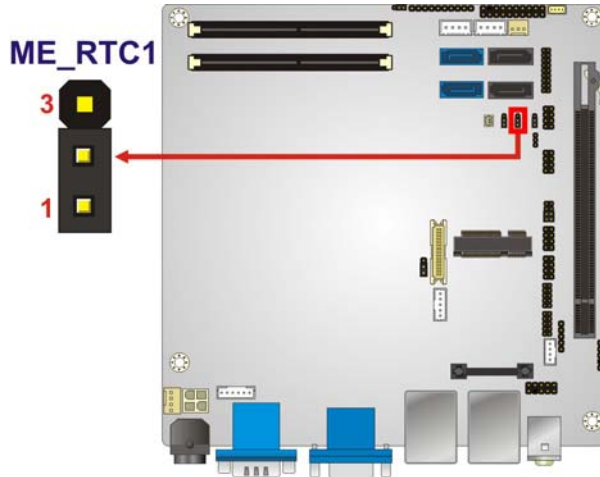

Figure 4-10: ME RTC Register Jumper Location
- Jumper Location:** See **Figure 4-10**